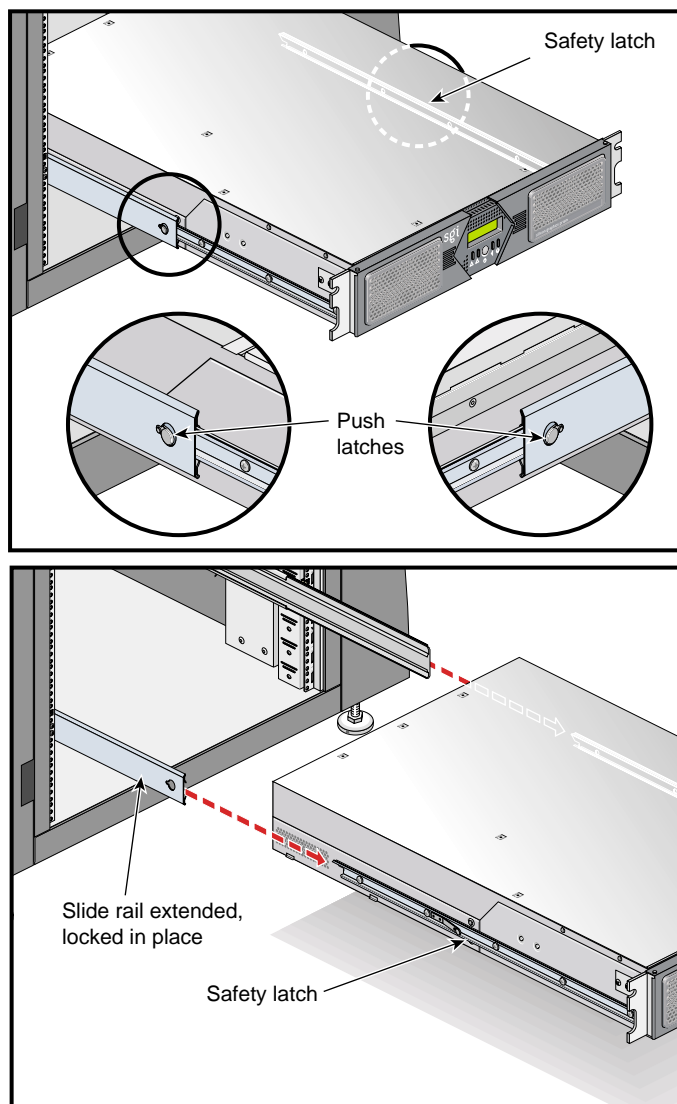

Figure B-10 Releasing the Safety Latches
5. With one person holding each side, release the safety latches on both sides of the module and pull the module out of the slide rail (see Figure B-10).